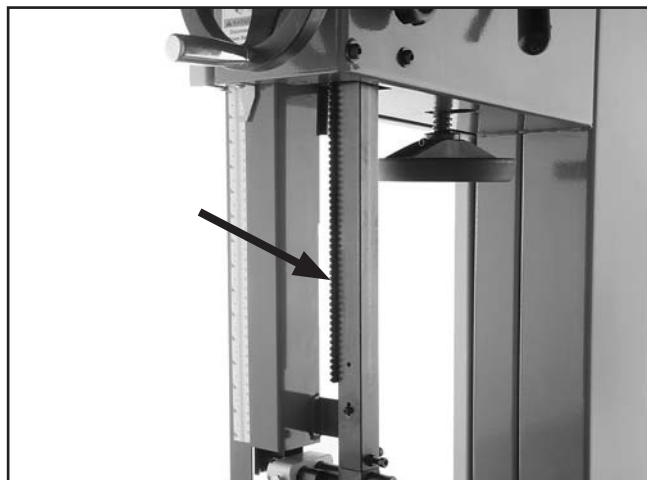

Figure 91. Example of rack lubrication location.
3. Using a rag and mineral spirits, wipe off any existing grease and sawdust buildup on the rack (see **Figure 91**).